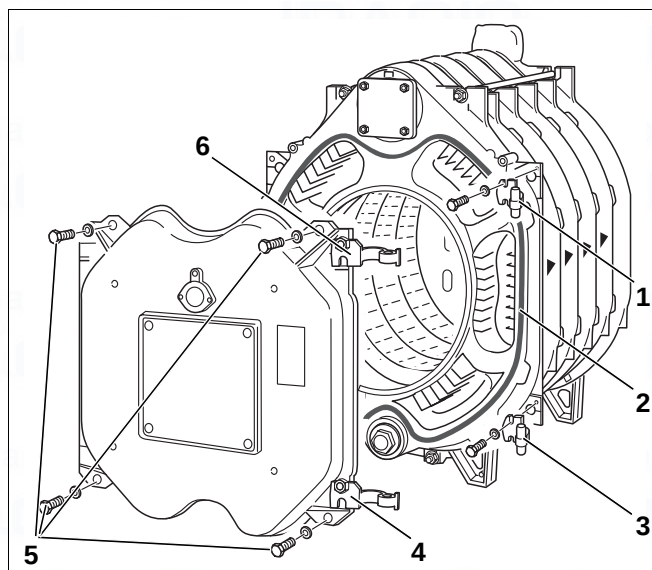

Fig. 26 Hooking in the burner door
In the factory, the burner door hinge lobes (Fig. 26, [4] and [6]) are fitted on the right-hand side. For left-hand closing, mount the hinge lobes accordingly on the left-hand side of the burner door.
- Screw the hinge pins (Fig. 26, [1] and [3]) to the front boiler section with 2 M 12 x 50 machine screws in each case. This is shown in Fig. 26 for the right-hand closing version. For left-hand closing, secure hinge pins accordingly on the left-hand side.
- Affix 18 mm diameter GP cord in the front section using Silastik adhesive. The packing cord joint should be located at the side (Fig. 26, [2]).
- ▶ Close the burner door and secure with 4 machine screws (M16 × 140) (Fig. 26, [5]). Tighten the machine screws evenly crosswise.